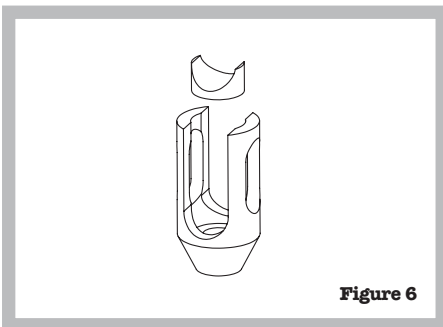

Figure 6
6. Drop the upper tube blocks into the upper barrels. The flat ends of the tube blocks should face the set screws. Align the radii of the blocks with the radii of the barrels. (Figure 6)